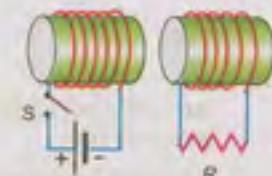

Fig. Q. 15.4
- 15.4 What is the direction of the current through resistor  $R$  in Fig.Q.15.4? When switch  $S$  is